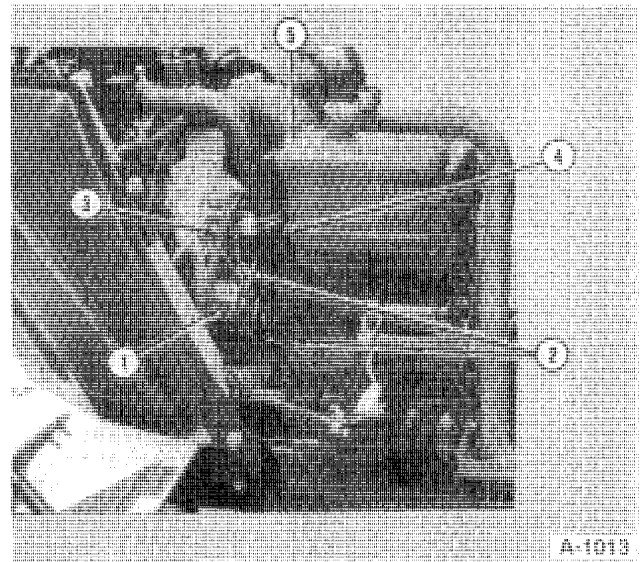

FIGURE 1-21
8. Loosen the alternator bracket bolt, 2, Figure 1-21. Then remove the belt from the alternator and fan pulley.